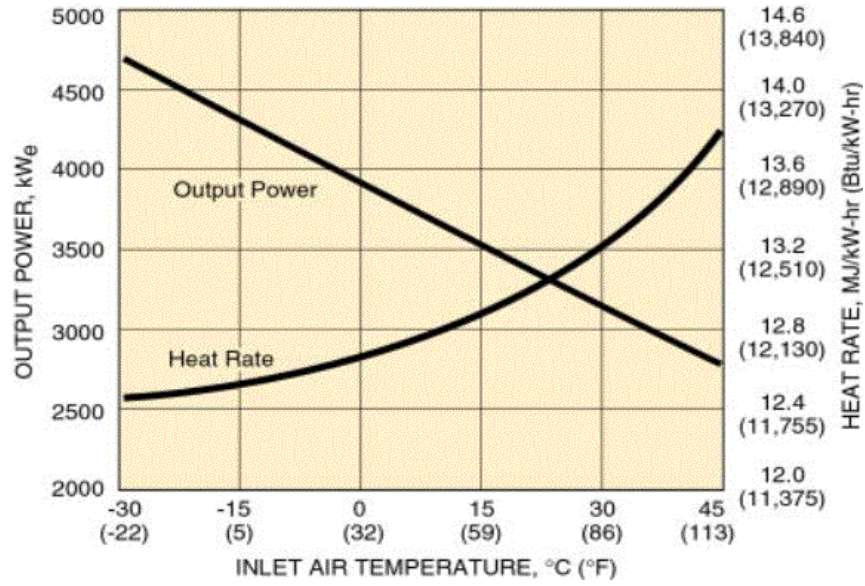

Figure 2-2 Effect of Ambient Air Temperature on the Electric Power Output and Heat Rate of a Typical Small Combustion Turbine
- Figure 2-2 shows the effects of air inlet **temperature** and **pressure** on gas turbine **performance**.